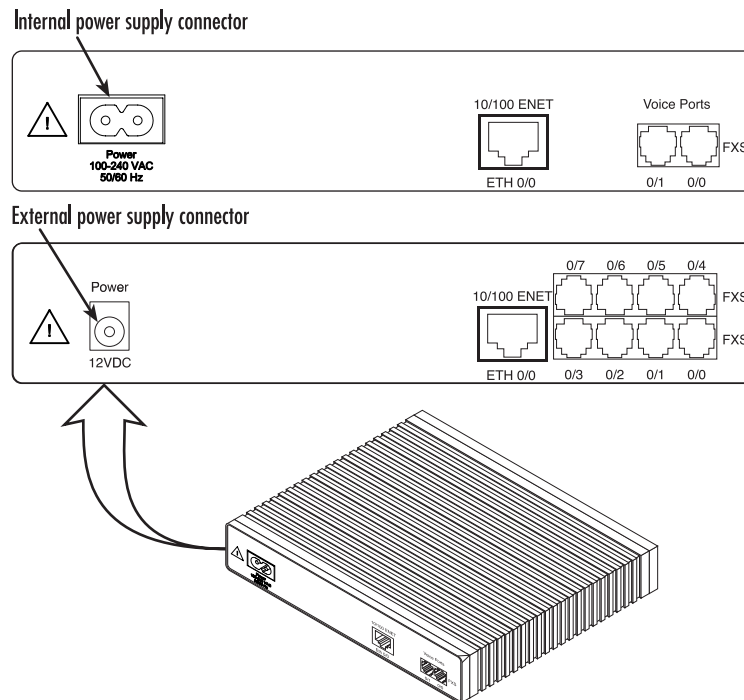

Figure 6. SmartNode 4110 Series power input connectors
- *UI* stands for integrated universal input power supply (see figure 6)
- *EUI* stands for external universal input power supply (see figure 6)